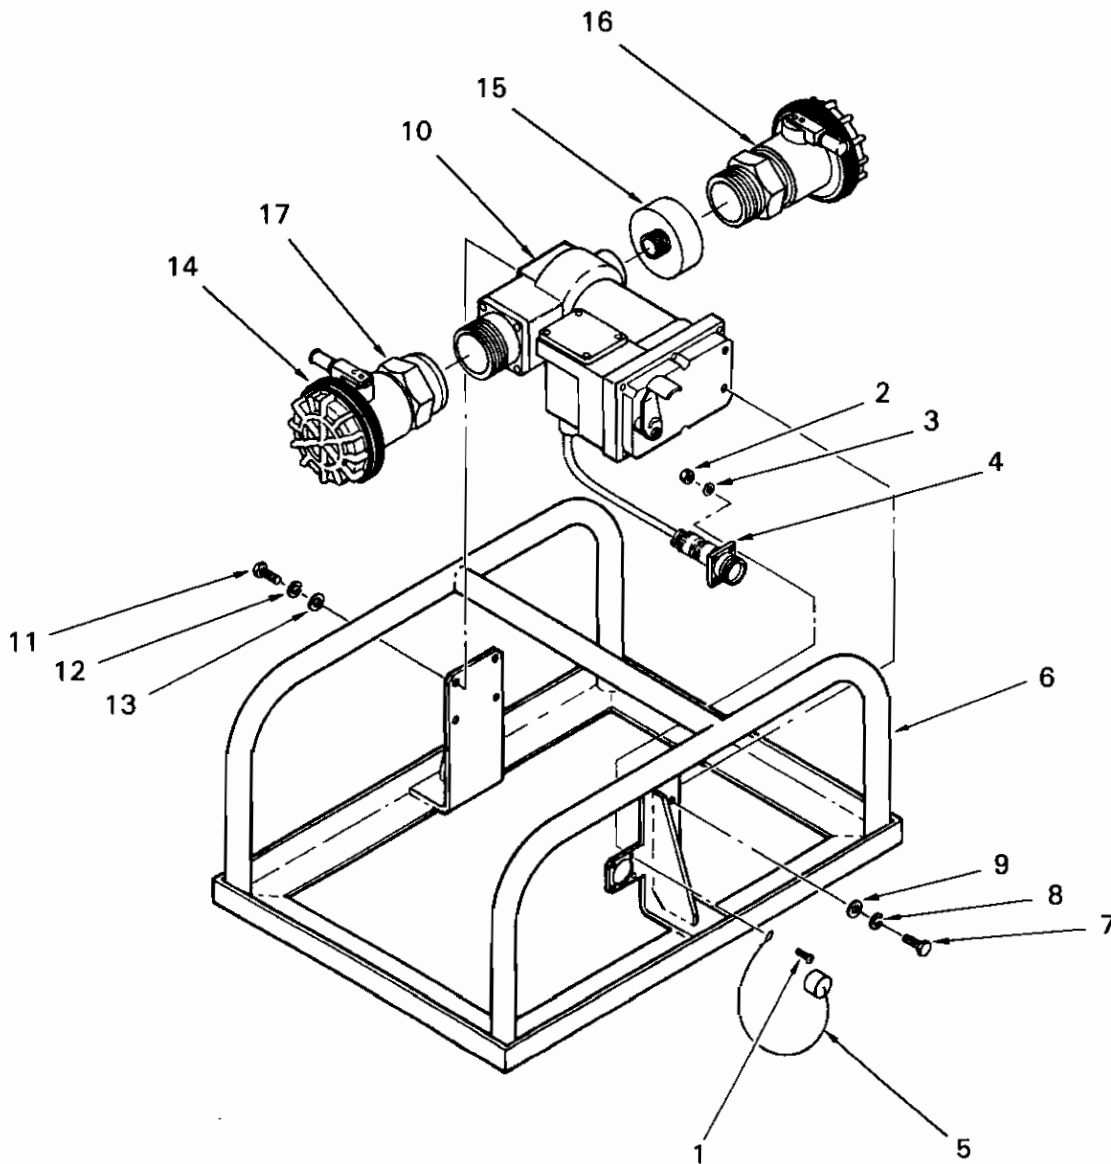

Figure 4-11. Auxiliary Pump Module
4.8.10 REPLACE AUXILIARY PUMP. (Refer to figure 4-11.)